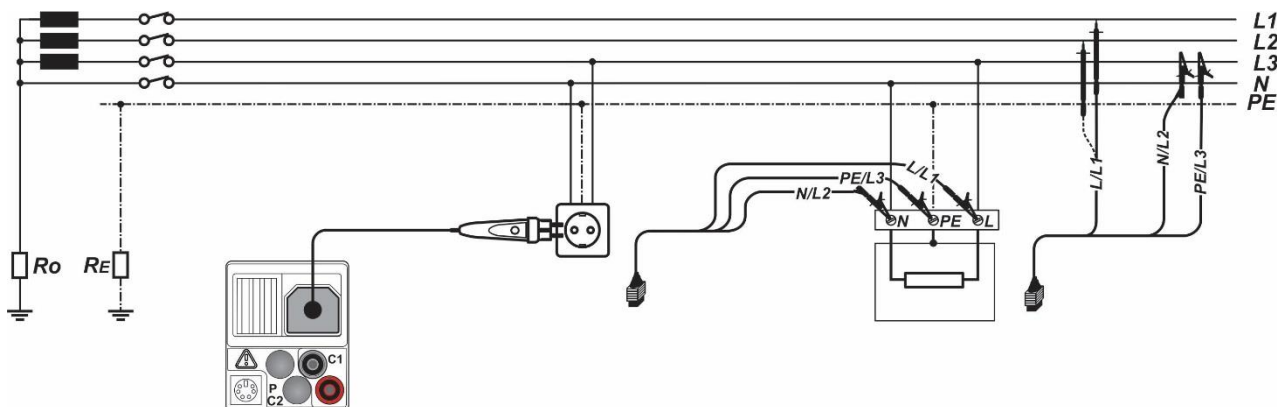

Figure 5.31: Phase-neutral or phase-phase line impedance measurement – connection of plug commander and 3-wire test lead
- ❑ **Connect** test leads to the item to be tested (see Figure 5.31).